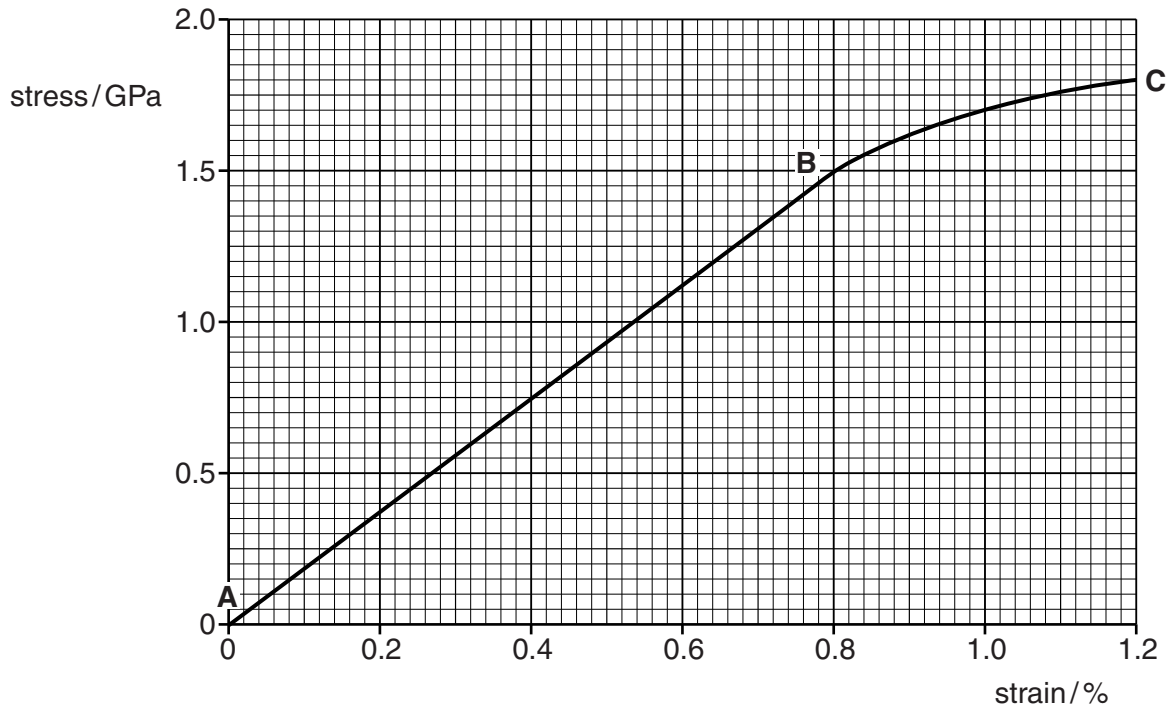

Fig. 8.1
- 5 (a) Fig. 8.1 shows the stress against strain graph obtained from a test on a sample of wire of a ductile material.
- (i) Use Fig. 8.1 to determine the Young modulus of the material.
- (ii) Use Fig. 8.1 to describe the behaviour of the material